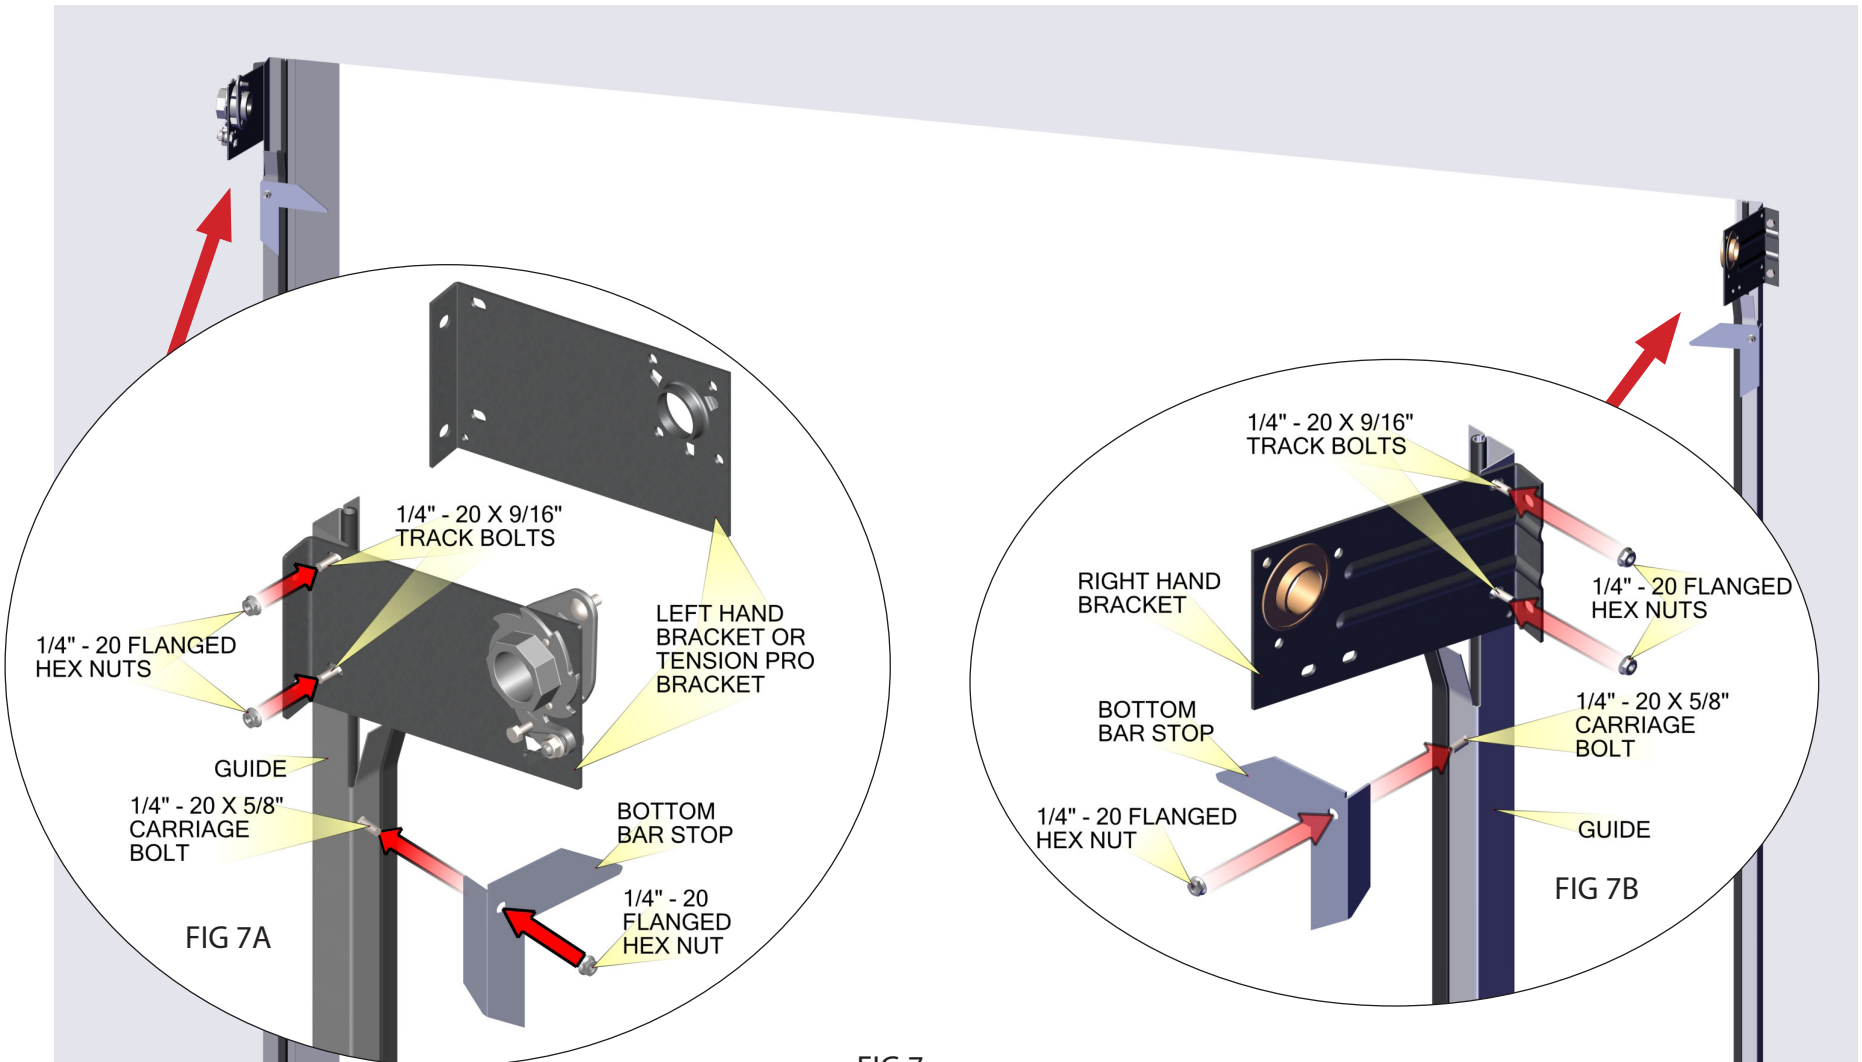

FIG 7
- Install the brackets to the outside of the guides using two 1/4"-20 x 9/16" track bolts, as shown. See FIG 7.
- Loosely install the 1/4"-20 flange nuts on the bolts to hold the brackets in place. See FIG 7.